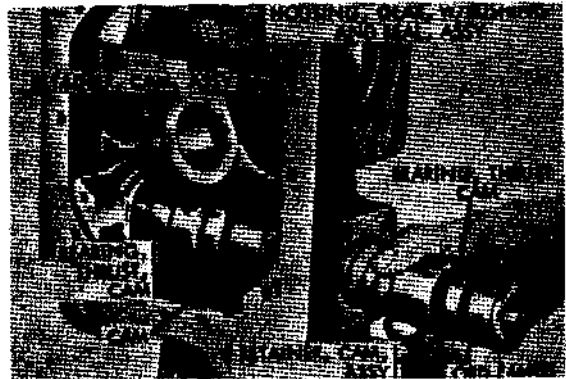

Figure 139. Removing cam
- (1) Remove four cap screws and lockwashers.
- (2) Remove cam end cover, shims, and gaskets.
- (3) Pull cam with cam retainer assemblies (fig. 139) and cam thrust bearings from gear housing.
- (1) Assemble cam thrust bearings (fig. 139) and cam retainer assemblies on